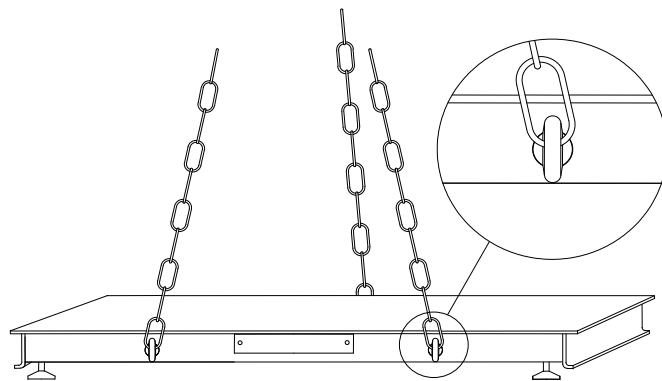

Figure 1. Hoisting method
3. Available hoisting methods include the use of eye bolts and chains (not included). All models have unthreaded holes at 3 locations, two 3/4"-10 holes on the front panel and one 3/4"-10 hole on the back panel. See figure 1.